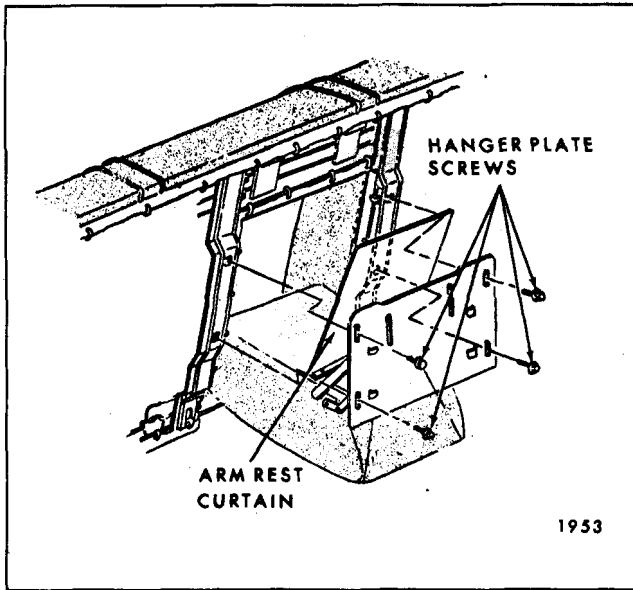

Fig. 14-55-Rear Seat Back Arm Rest and Hanger Plate
2. On back side of rear seat back, remove four screws securing arm rest hanger plate to seat back supports; then, carefully remove arm rest and hanger plate assembly from seat back (Fig. 14-55).